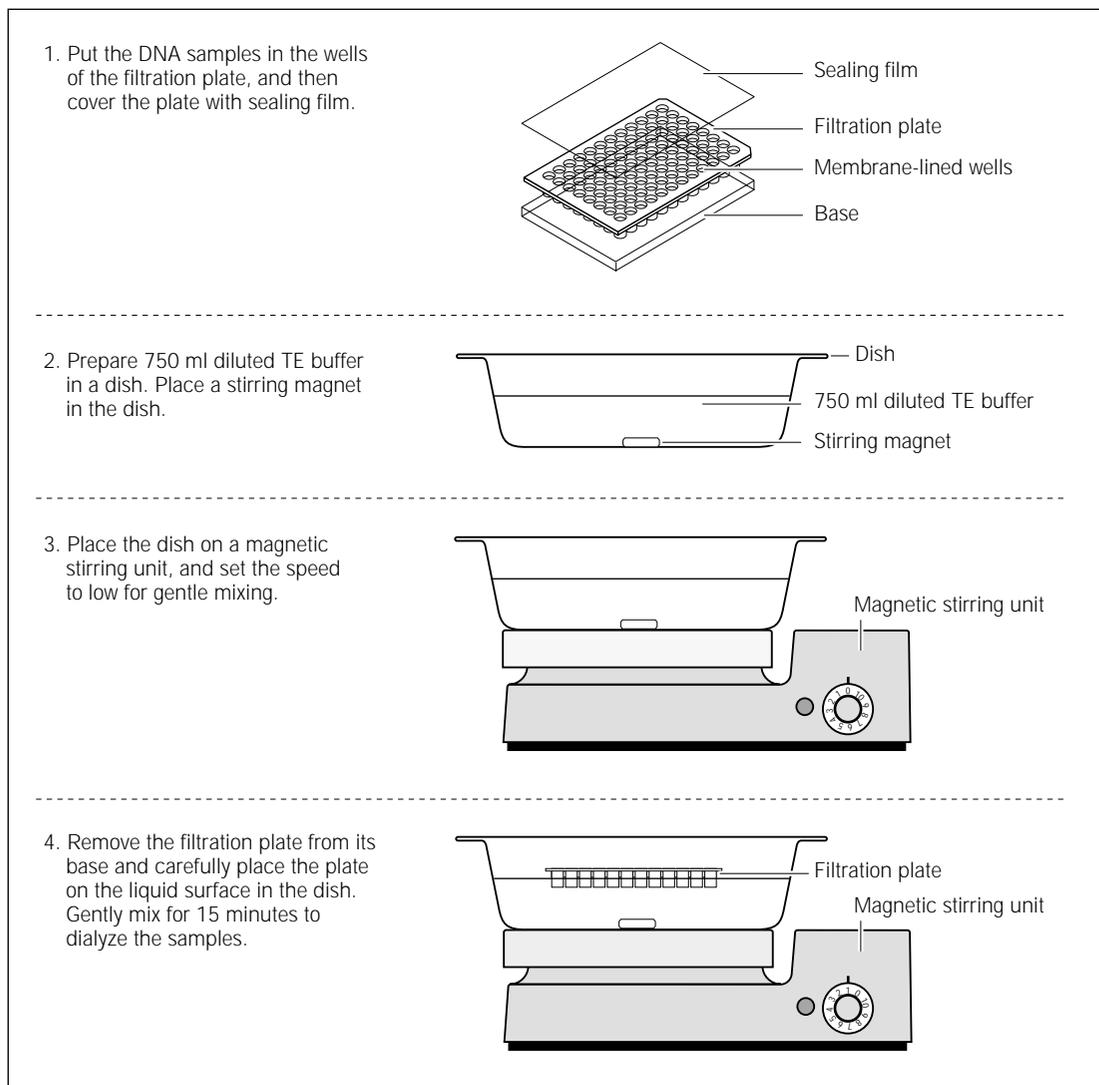

Figure B-1. The desalting protocol.
1. Prepare the sample filtration plate as follows (figure B-1):
3. Place the dish of desalting solution onto a magnetic stirring unit (figure B-1), and then set the speed to low for gentle stirring.